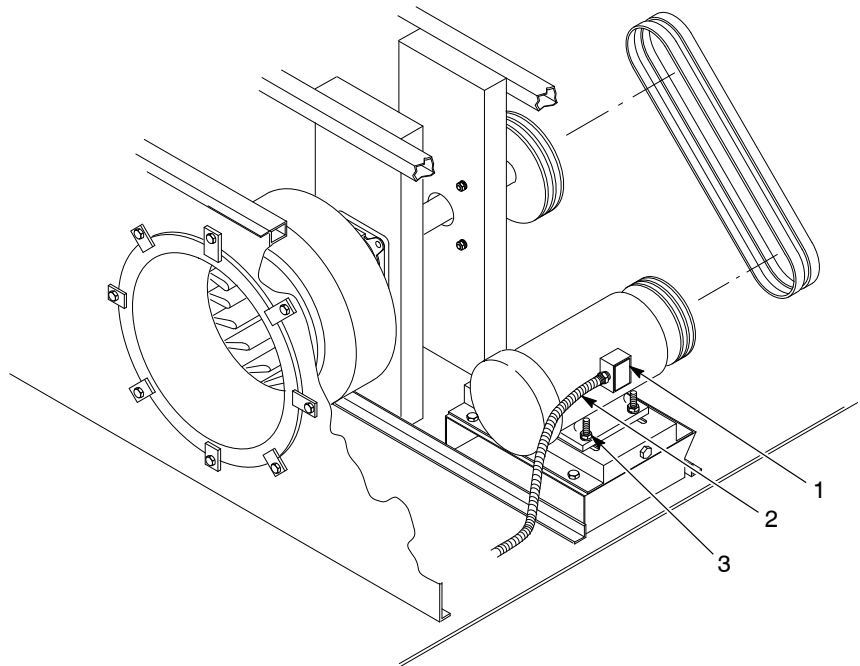

Figure 7-9 Motor Replacement
1. See Figure 7-9. Remove the cover from the junction box (1). Tag and disconnect the wiring from the motor leads. Disconnect the conduit (2) from the junction box.
3. Remove the nuts and washers (3) securing the motor to the mounting plate.